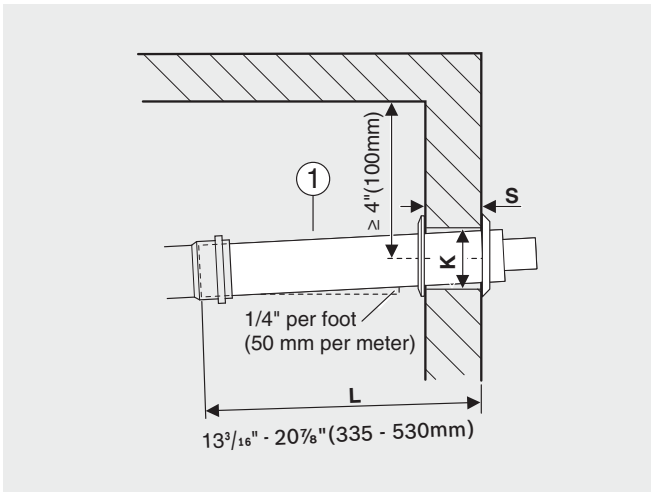

Fig. 7 Penetration through the outside wall
- Measure the length of the vent terminal assembly (→ Fig. 7, [1]) taking into account the thickness of the outside wall [S] and the distance from the outside wall to the end of the vent pipe [L]. It is recommended to keep at least 4" (100mm) clearance from the ceiling or joists for accessibility reasons.
- ▶ Ensure all components are properly connected and aligned, and that the termination has the proper pitch as shown in Fig. 7.